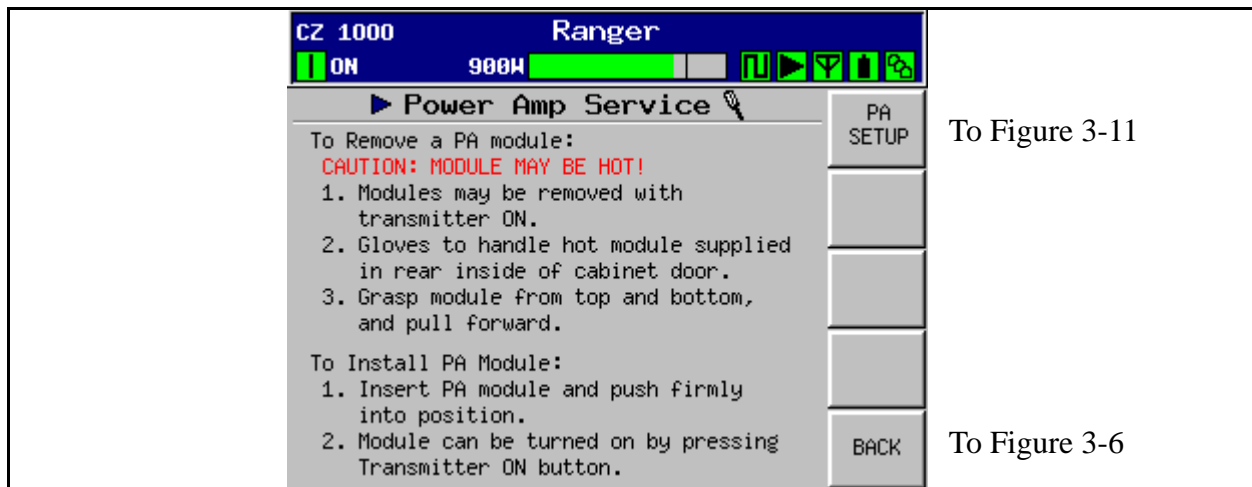
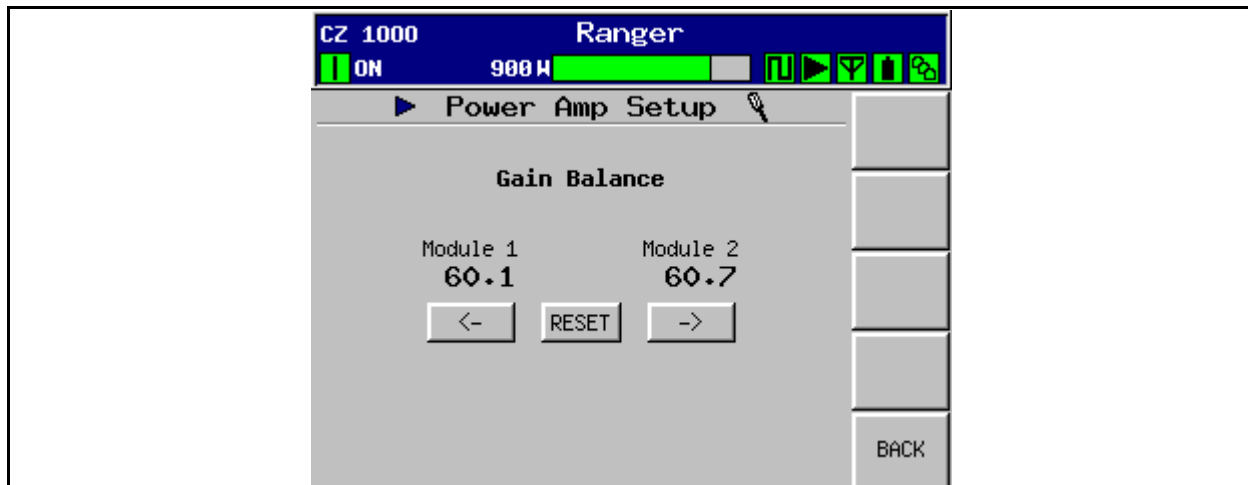

Figure 3-10 PA Service Screen
Figure 3-11 PA Setup Screen
To Figure 3-10
This screen is accessed by pressing the PA Setup button in Figure 3-10. Its sole purpose is to balance the gain of the 2 PA modules in the CZ1000F transmitter. The goal is to match the 2 module gain readings. Adjustment is only required if the module current readings in Figure 3-11 are more than 1 amp apart. This procedure will have to be done if a module is changed. The adjustment procedure is simple.
- STEP 1** Check the PA module gain balance on the PA Setup screen, shown in Figure 3-11 on page 3-14. These current readings should be less than 1 amp apart. If not, refer to "3.6.4.1 PA Setup (Gain Balance)" and adjust the module gains before proceeding with the module phasing.